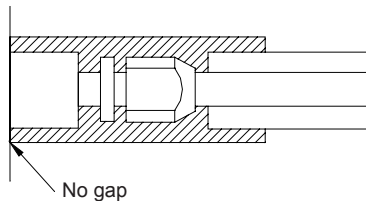

Fig.8
- 2) The joints of the indoor unit should be wrapped with the insulating material and no gap is allowed on the joint of the indoor unit, as shown in Fig.8.